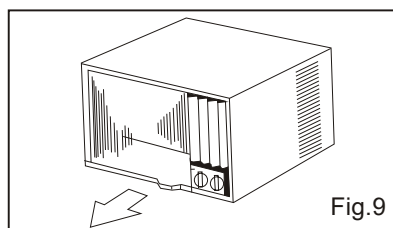

Fig.9
6. Grasp the handle on the front of the chassis and carefully slide the air conditioner unit out of the cabinet. (Fig.9)